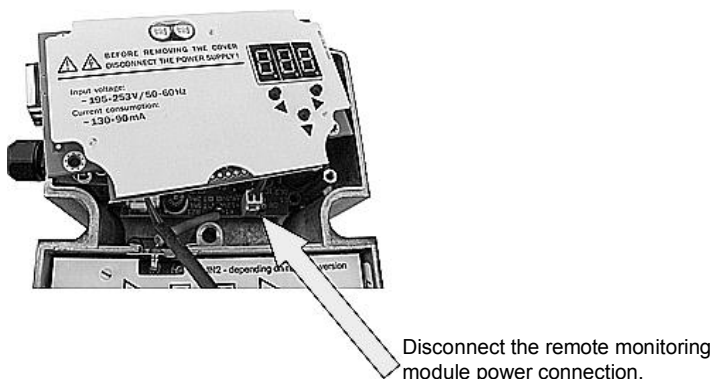

Fig. 8.12. Replacing a fuse in the ORB 729 - step 3.
- remove the power unit enclosure or the TMM 729 monitoring module, depending on factory fitted options. While removing the remote monitoring module, switch off its power supply through disconnecting - see fig. 8.12,
- Fig. 8.12. Replacing a fuse in the ORB 729 - step 3.